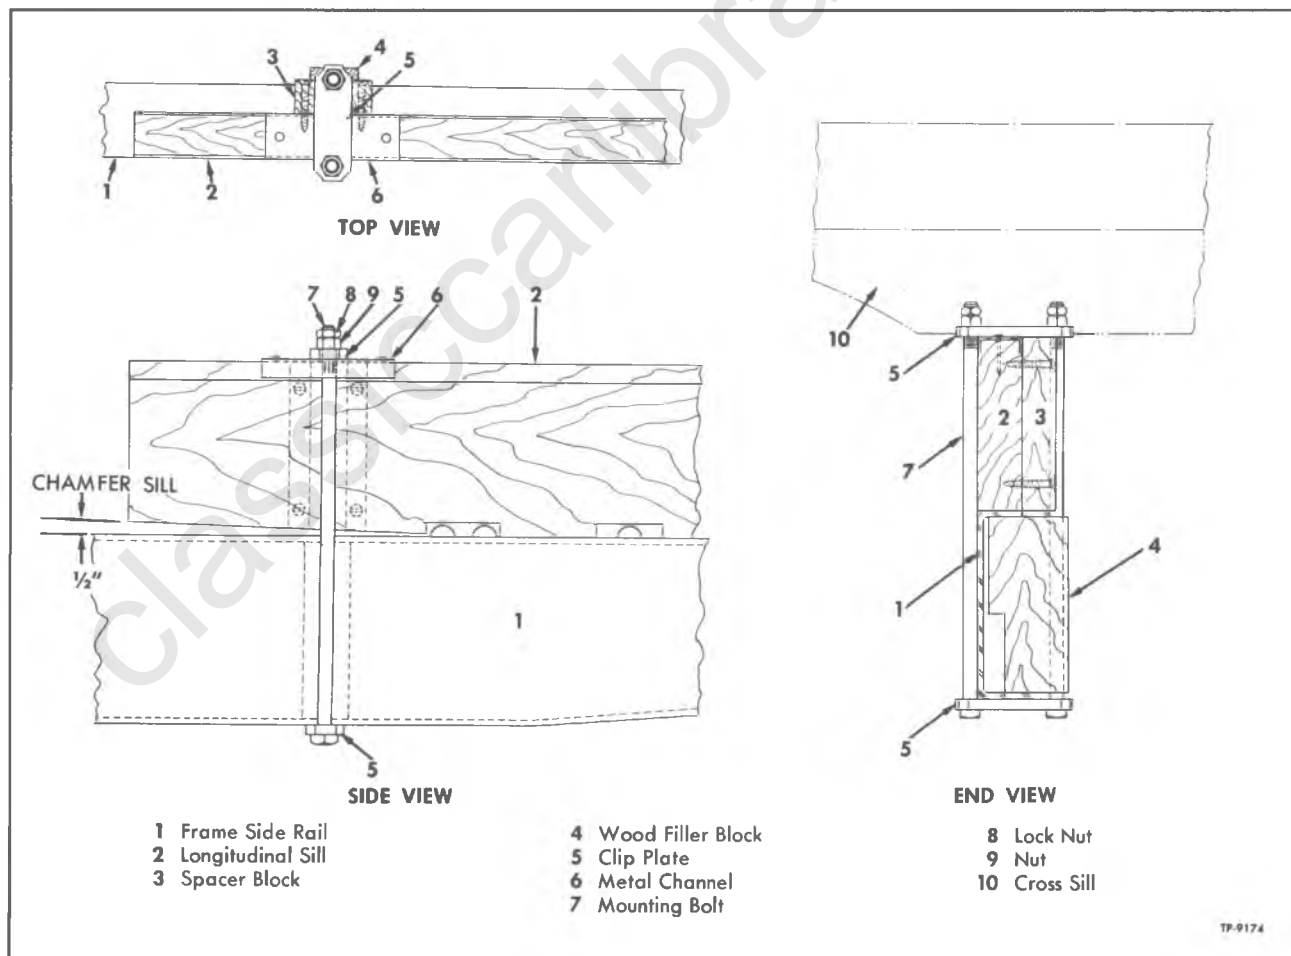

Figure 1—Typical Body Mountings
4. Sill must rest squarely on frame flange and not overhang outside of frame. If sill width does not cover entire width of frame, install a spacer block as shown in figures 1 and 2. Blocks should
5. Wood sills must be chamfered 1/2" at the front end, tapering to meet the frame 12 to 18 inches from end of sill (fig. 1). Tapered front of sill is required for all Van or torsionally rigid bodies. Notch or spot drill sill to clear the rivet heads.
6. To prevent mounting clip plate becoming embedded in longitudinal sill, install a sheet metal channel on top of sill at each mounting point (figs. 1, 2, and 3). Rabbet grooves along each side of top edges of longitudinal sills to permit flush mounting of sill channels.
4. Insert a block of hard, dry wood (with grain running up and down) in channel of frame at each mounting. Block must be of sufficient length to extend well under clip plates. Thickness of block should extend beyond width of frame flanges to permit grooving the blocks. Inner mounting bolt will fit into groove and hold block firmly in place (fig. 1 or 2).